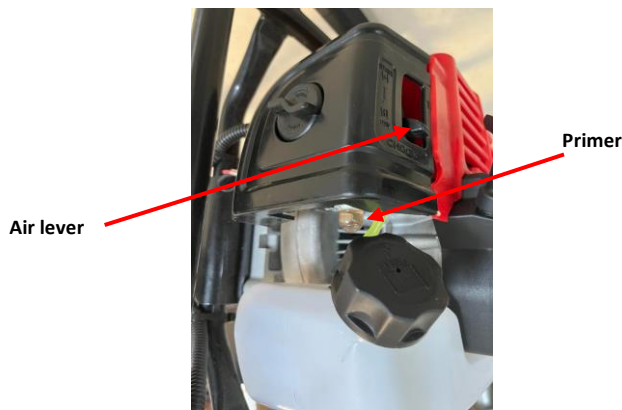

Fig. 6
3. Press the primer (**Fig. 6**) 4 or 5 times to allow the gasoline to get to the carburetor.
4. Place the air lever (**Fig. 6**) in the START position. **N**
6. Firmly pull the starter cord 4 or 5 times until the engine starts and simultaneously press the throttle lock (**Fig. 1-7**) and the throttle (**Fig. 1-5**) to start the earth auger (**Fig. 6**).
7. After starting, place the air lever in the RUN position (**Fig. 6**).